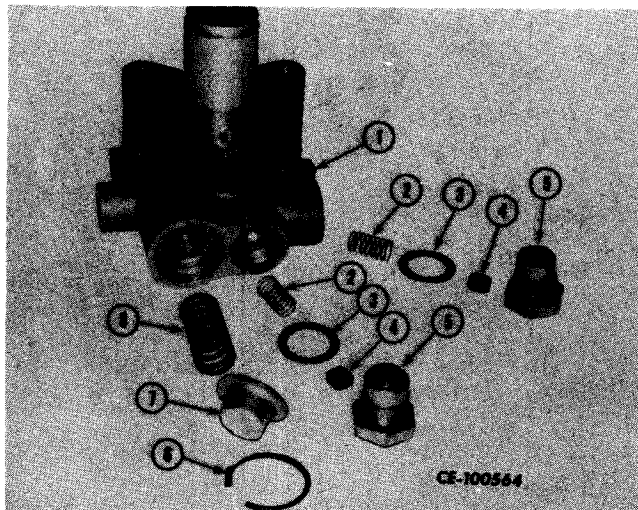

Figure 13-18
Remove plugs (5, Fig. 13-18) from section (1). Do not damage copper washers (3). Remove screens (4) and springs (2) from plugs. Remove snap ring (6) with snap ring pliers. Spring (8) and seat (7) will pop out.
Insert screens (4, Fig. 13-18) into plugs (5). Seat them with a blunt stick or pencil eraser. Slip copper washers (3) over plugs. Seat springs (2) in plugs and install in proper bores